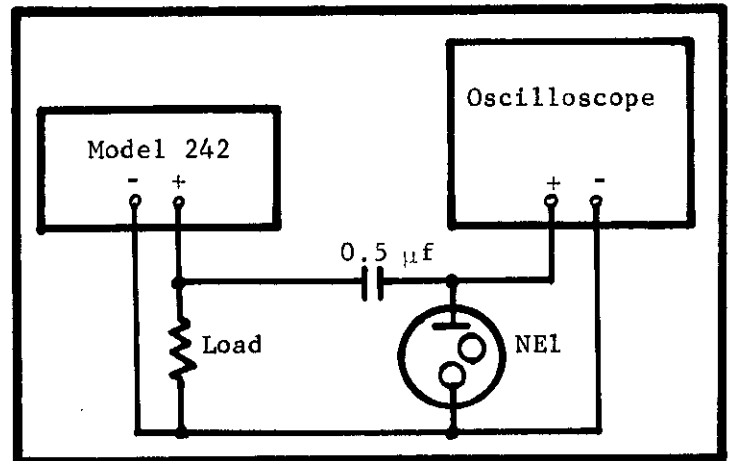

FIGURE 6. Circuit Diagram for Model 242 Bias Adjustment. Refer to paragraph 4-8 for procedures and Table 1 for equipment.
a. Connect the Model 242 to the circuit shown in Figure 6. Use a resistor which will allow a full load — 25 milliamperes — on the Model 242. For example, set the Voltage Supply to 1000 volts output and use a 25-kilohm resistor. Use a 0.5-microfarad, 4000-volt blocking capacitor in series with the oscilloscope for protection.